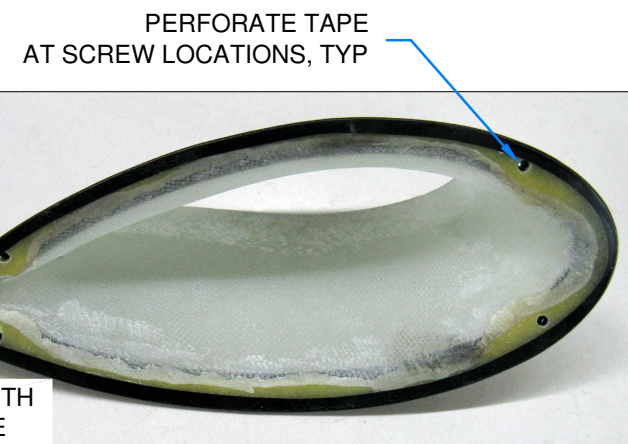

FIGURE 2: LOWER INTERSECTION FAIRINGS MASKED
Step 3: Apply a strip of quality 3/4 [19.1 mm] wide vinyl electrical tape around the perimeter of the lower intersection fairings. Position the tape so that the majority of its width is located on the outside face of the fairings as shown in Figure 2.